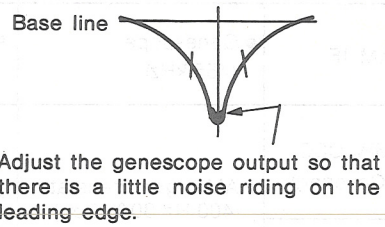

Fig. 9
6. Feed in a weak signal from the genescope. Adjust T201, T203 for maximum gain and the waveform of Fig. 9.